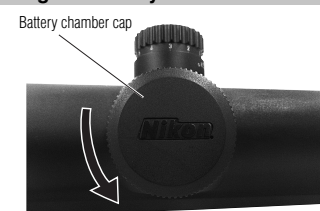

Fig. 5
1. Loosen the battery chamber cap. (Fig. 5)